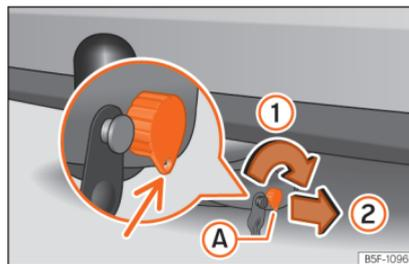
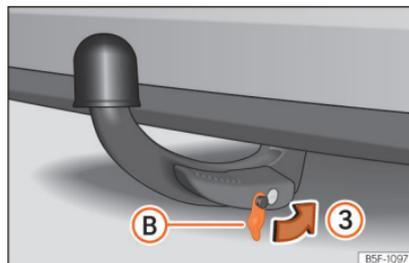

Fig. 296 Locking the lock.
Fig. 297 Placing the cover over the lock.
- Turn key ① in the direction of arrow ① until the part of the key with the holes reaches the bottom position »» Fig. 296.
- Remove the key in the direction of arrow ②. »
- Place cover (B) in the lock in the direction of arrow (3) » Fig. 297 » 1.